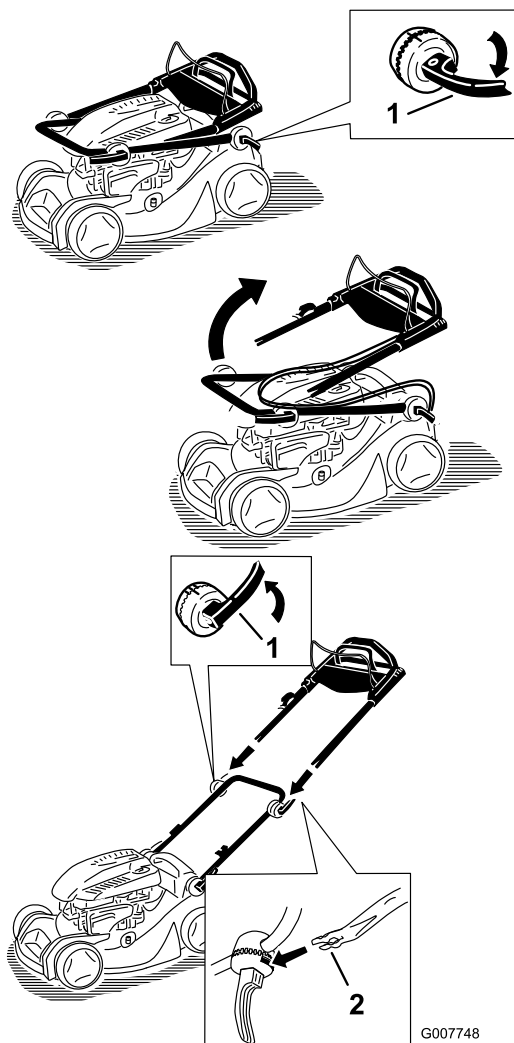

Figure 3
1. Unlock the handle locks, move the handle sections into the operating position, attach the upper handle to the lower handle, and lock the handle locks (Figure 3).